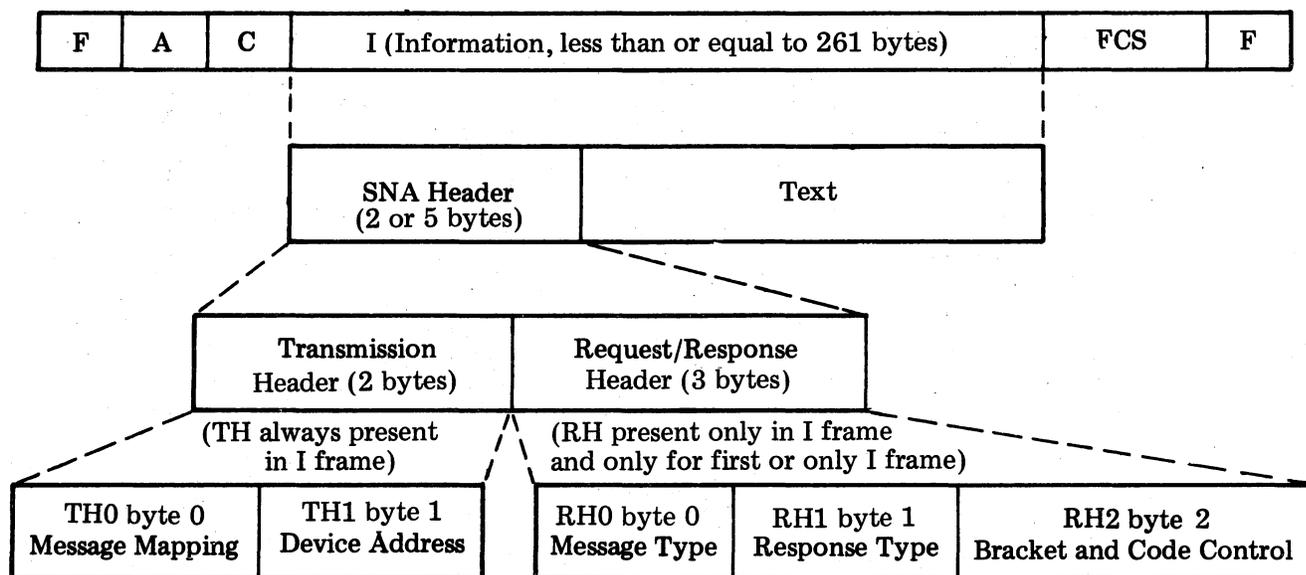

Fig. 21—Format of Information Field in I Frame
9.11 The Information field contains up to 261 bytes which includes up to 5 bytes of Systems Network Architecture (SNA) headers and up to 256 bytes of message text. The SNA headers are positioned at the beginning of the Information field. These headers consist of Transmission Headers (TH) and Request/Response Headers (RH). See Fig. 21.